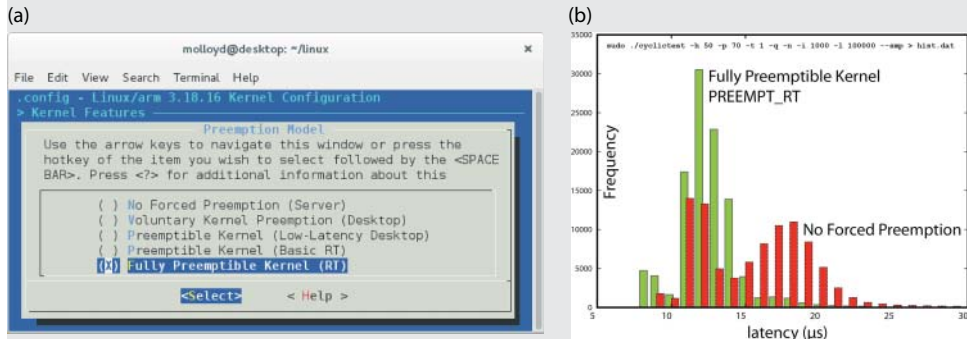

Figure 7-15: (a) The `PREEMPT_RT` menuconfig option (b) The results histogram of the `cyclicttest` under load
- In the Kernel Features menu, you can see that the number of CPUs is set at 4 for the RPi2/3. You can alter the Preemption Model in the same menu (see Figure 7-15(a)).
In Figure 7-15(a), the RT patch has been applied, which results in a new option for a fully preemptible kernel in the `menuconfig` tool.
The patched kernel can be deployed using the steps that follow in this section. On `reboot`, `uname -a` should display a message that includes RT. Figure 7-15(b) illustrates the `cyclicttest` results histogram of the fully preemptible kernel in comparison to a kernel with no forced preemption. These kernels were tested under load by using the